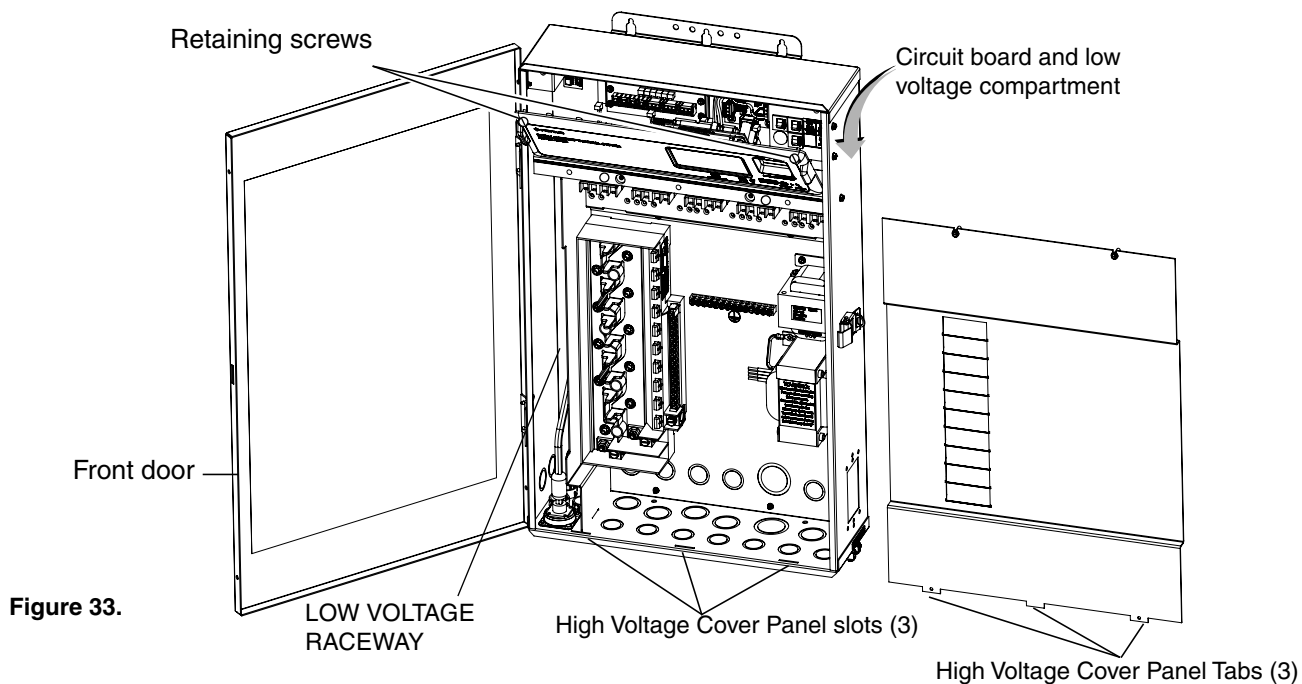

Figure 33.
2. Unlatch the front door latch and open the front door. Remove the two retaining screws from the High Voltage Cover Panel and remove the panel. See Figure 33.
- Secure the panel with the two (2) retaining screws. Close the front door and secure with the latch. See Figure 33 on page 34.